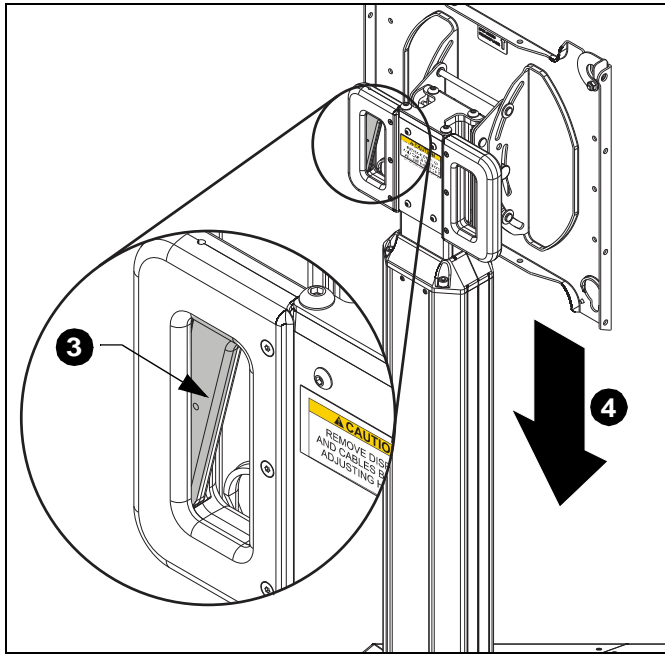

Figure 13
3. Prepare to lower faceplate by lifting it slightly and pulling the inner handle on back of faceplate. (See Figure 13)